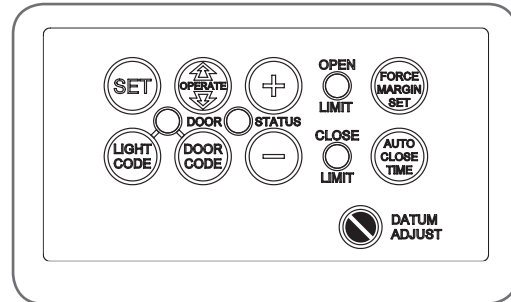

fig 32
1. Press in and hold both the Auto Close Time button and Force Margin Set button (**Fig. 32**).
1. Make sure the door is in the closed position. Press and hold the Plus (+) button for six (6) seconds (**Fig. 32**), you should hear three beeps and the Open and Close LEDs will flash rapidly.
2. Press the Plus (+) or Minus (-) button (**Fig. 32**) to move the door to your required new pet open door position.
3. Press the Set button (**Fig. 32**) to record the new position.